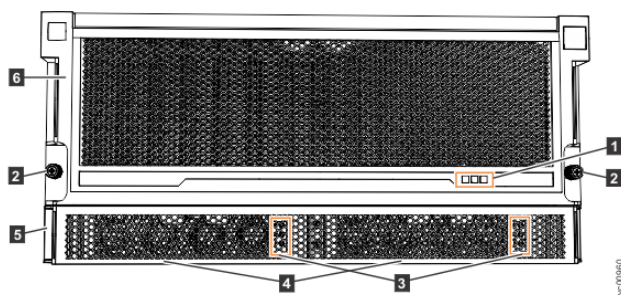
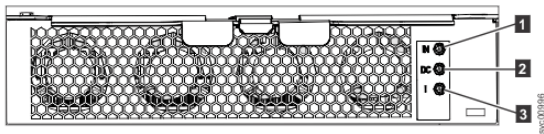

Figure 182. LEDs on the front of the expansion enclosure
Figure 183. LEDs on the front of a power supply unit
As Figure 182 on page 223 shows, the front of the 5U expansion enclosure contains LEDs for the display panel (1) and for each of the power supply units (3).
The 5U expansion enclosure contains two PSUs (4) in Figure 182 on page 223 that are accessible from the front of the enclosure. Each PSU has its own a set of LEDs, as shown in Figure 183 on page 224.